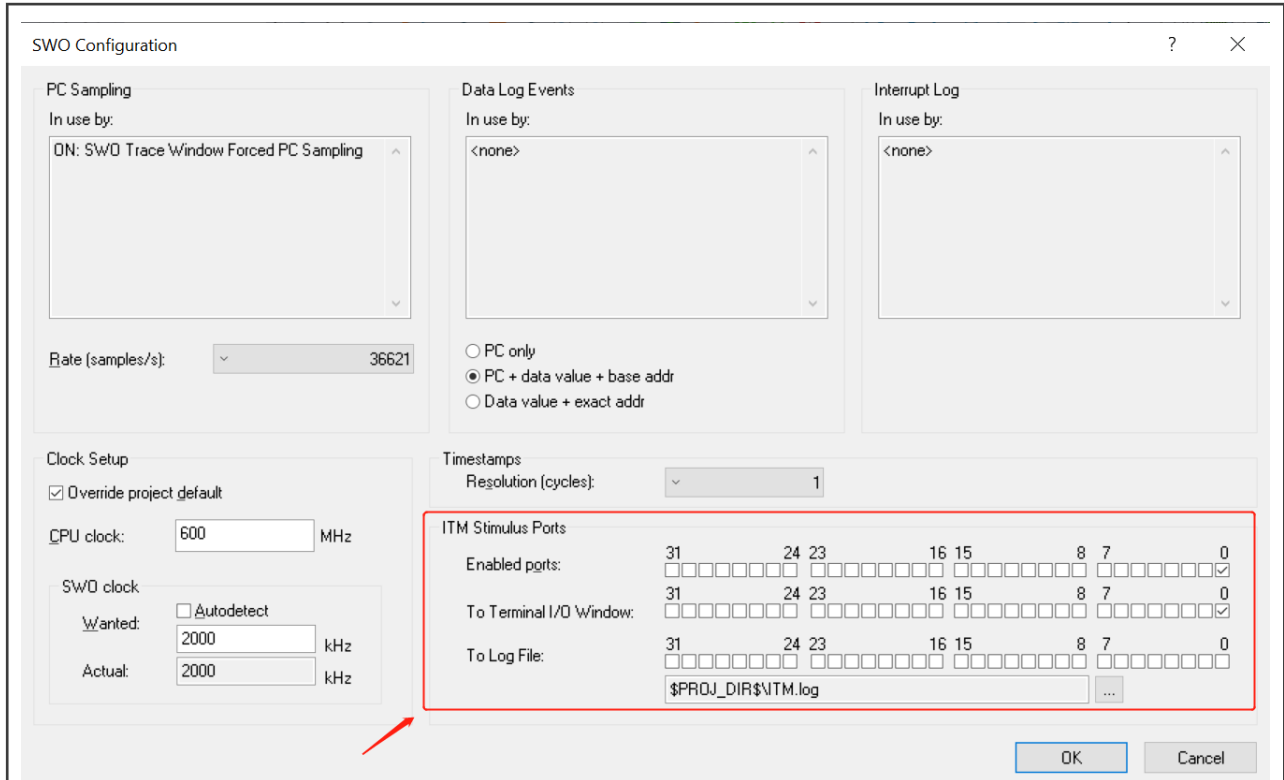

Figure 8. Set the ITM stimulus port to port0
- Download and debug the project. Click **File Menu -> J-Link -> SWO Configuration**. Make configurations on the **SWO Trace Window Settings** window, as shown in Figure 8 and Figure 9.